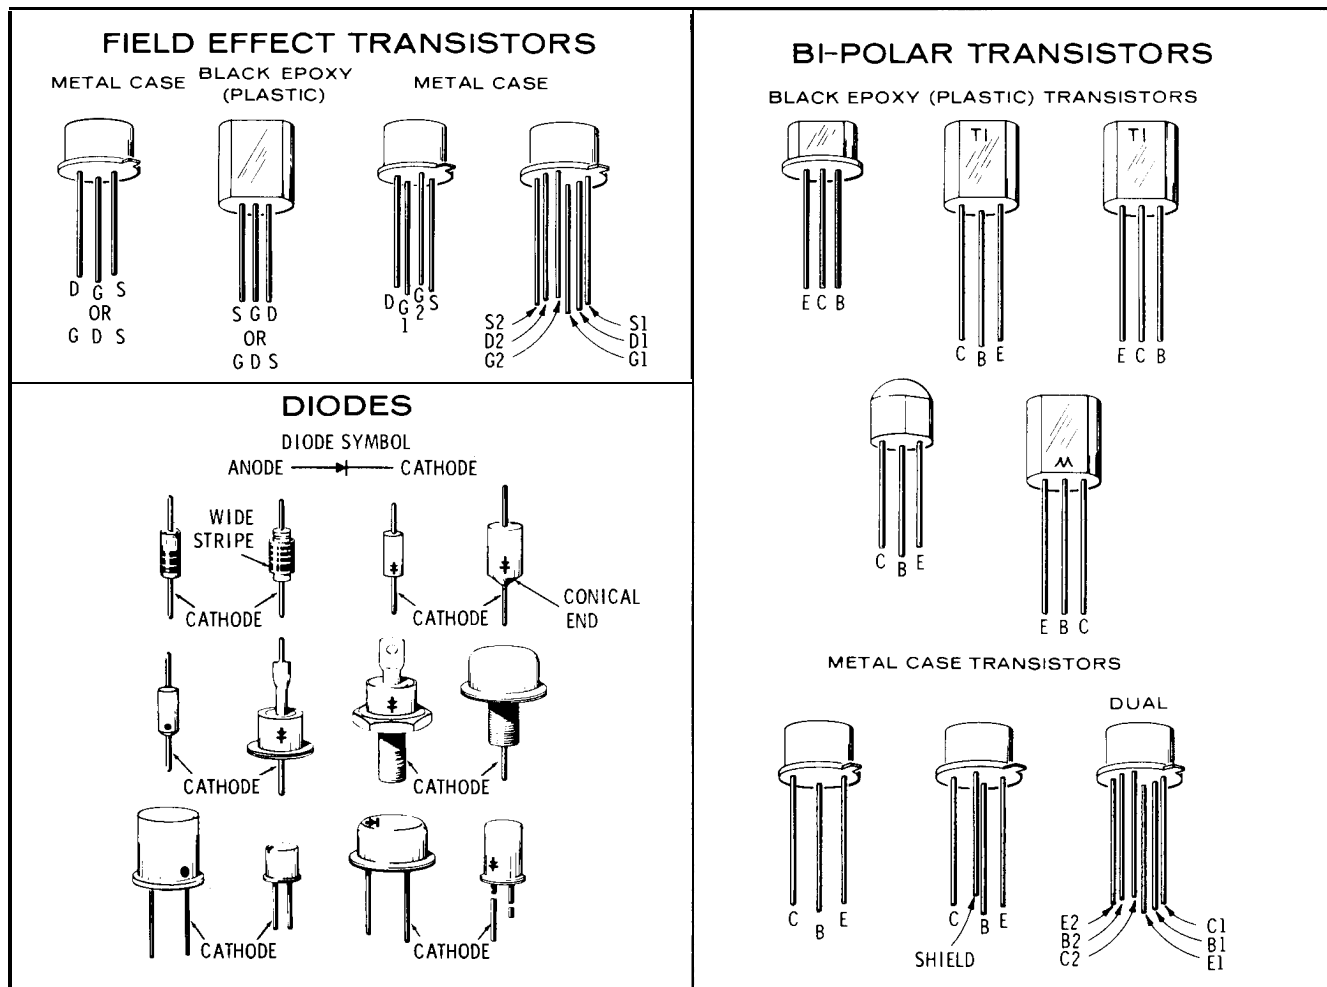

Figure 8-2. Examples of Diode and Transistor Marking Methods
**8-33. Transistor Replacement.** Transistors are packaged in many physical forms. This sometimes results in confusion as to which lead is the collector, which is the emitter, and which is the base. Figure 8-2 shows typical epoxy and metal case transistors and the means of identifying the leads.
**8-36. Diode Replacement.** Solid state diodes have many different physical forms. This sometimes results in confusion as to which lead is the anode (positive), since not all diodes are marked with the standard symbols. Figure 8-2 shows examples of some diode marking methods. If doubt exists as to polarity, an ohmmeter may be used to determine the proper connection. It is necessary to know the polarity of the ohms lead with respect to the common lead for the ohmmeter used. (For the HP Model 410B Vacuum Tube Voltmeter, the ohms lead is negative with respect to the common; for the HP Model 412A DC Vacuum Tube Voltmeter,